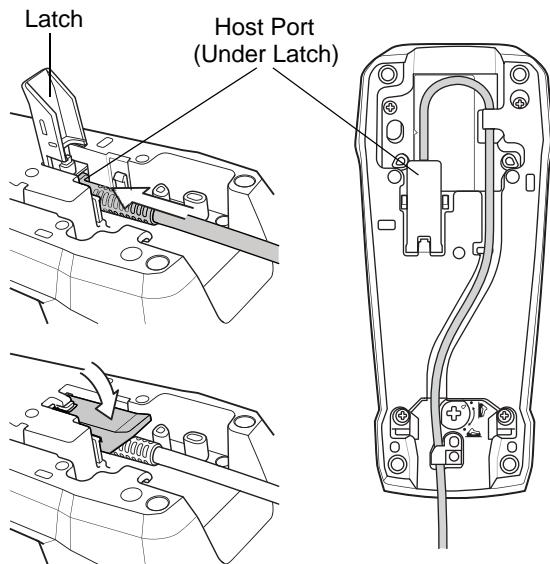

Figure 1-3 Connecting the Cables to the Cradle
3. Lift the latch and connect the interface cable into the cradle's host port and then close the latch. See Figure 1-3.